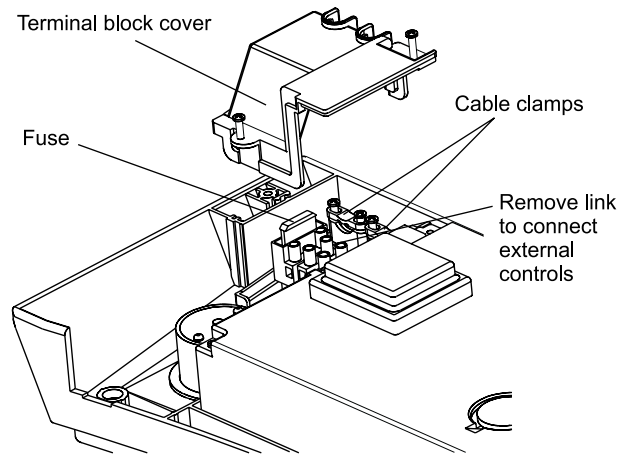

Fig. 14
4.8 CONNECT THE MAINS SUPPLY - Fig. 14
Remove the two screws securing the terminal block cover from the back of the control box (see Fig. 14). Pass the mains supply cable through the cable clamp and connect as follows:- Brown to L, Blue to N and Green/Yellow to \perp . Ensure correct polarity.